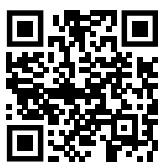

Fig. 146
- Otevřete Liebherr SmartMonitoring Dashboard. (viz Fig. 146)